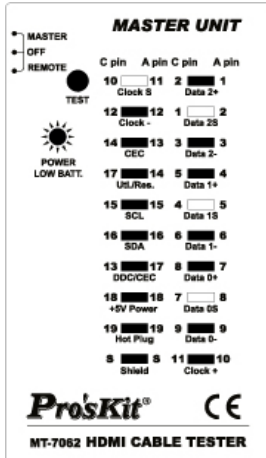

Fig 3. Open
- **Open**: with a short “beep” sound. No connected pins LED are off. Example: Test HDMI (A Type) to HDMI (A Type) cable that pin #2, #5, #8 and #11 are not connected, or test HDMI (A Type) to Mini-HDMI (C Type) cable that pin #1、#4、#7、#10 are not connected. (Fig 3.)